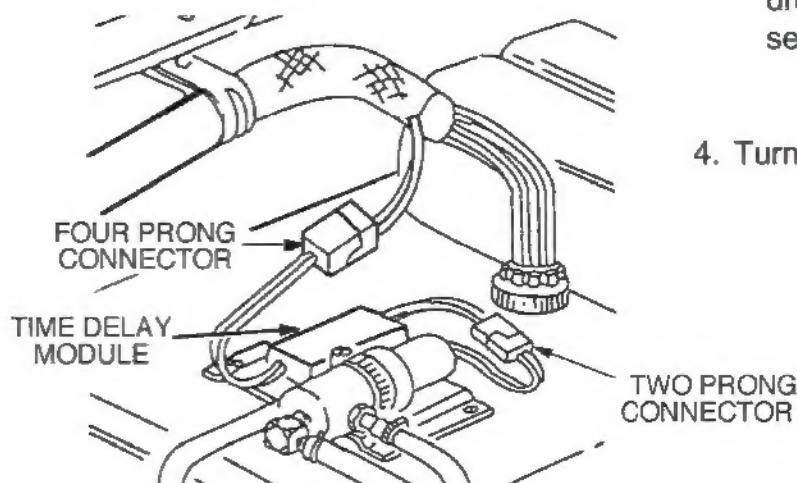

Figure 13-7. Time Delay Module Connector Testing.
b. On-Vehicle Testing (Figure 13-7)